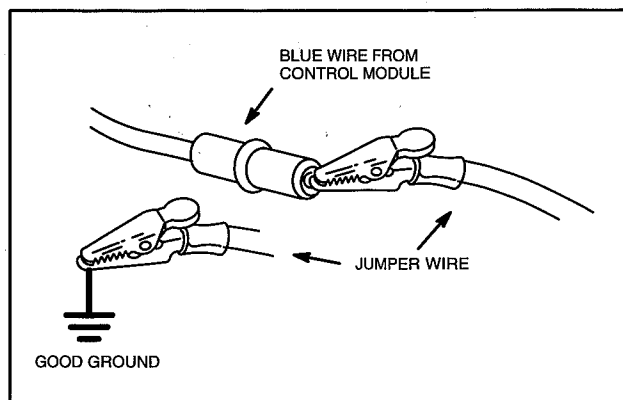

Fig. 137 – Electronic Governor – Idle Circuit
2. Activate idle down device, or ground BLUE wire from control module using a jumper wire, Fig. 137.